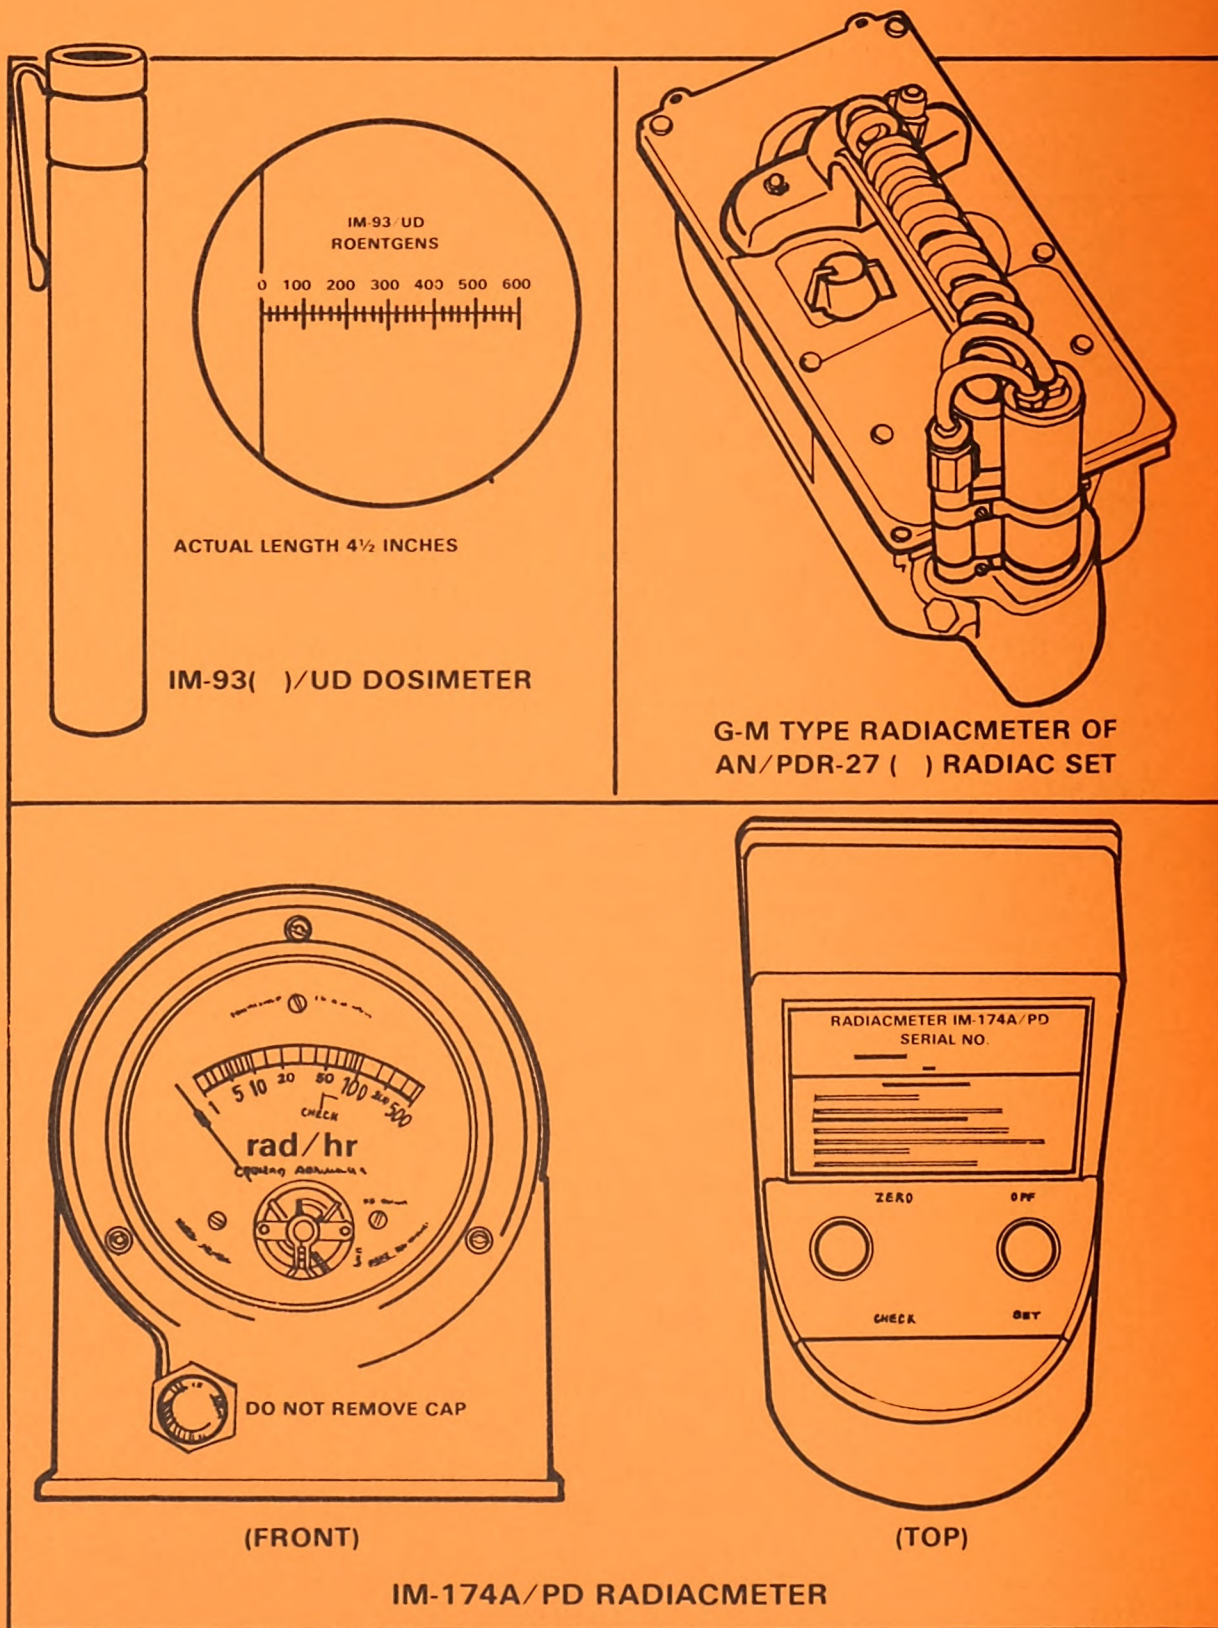

Figure 1. Radiac instruments.
1. Radiac instruments used to detect and measure radiation are illustrated in figure 1.